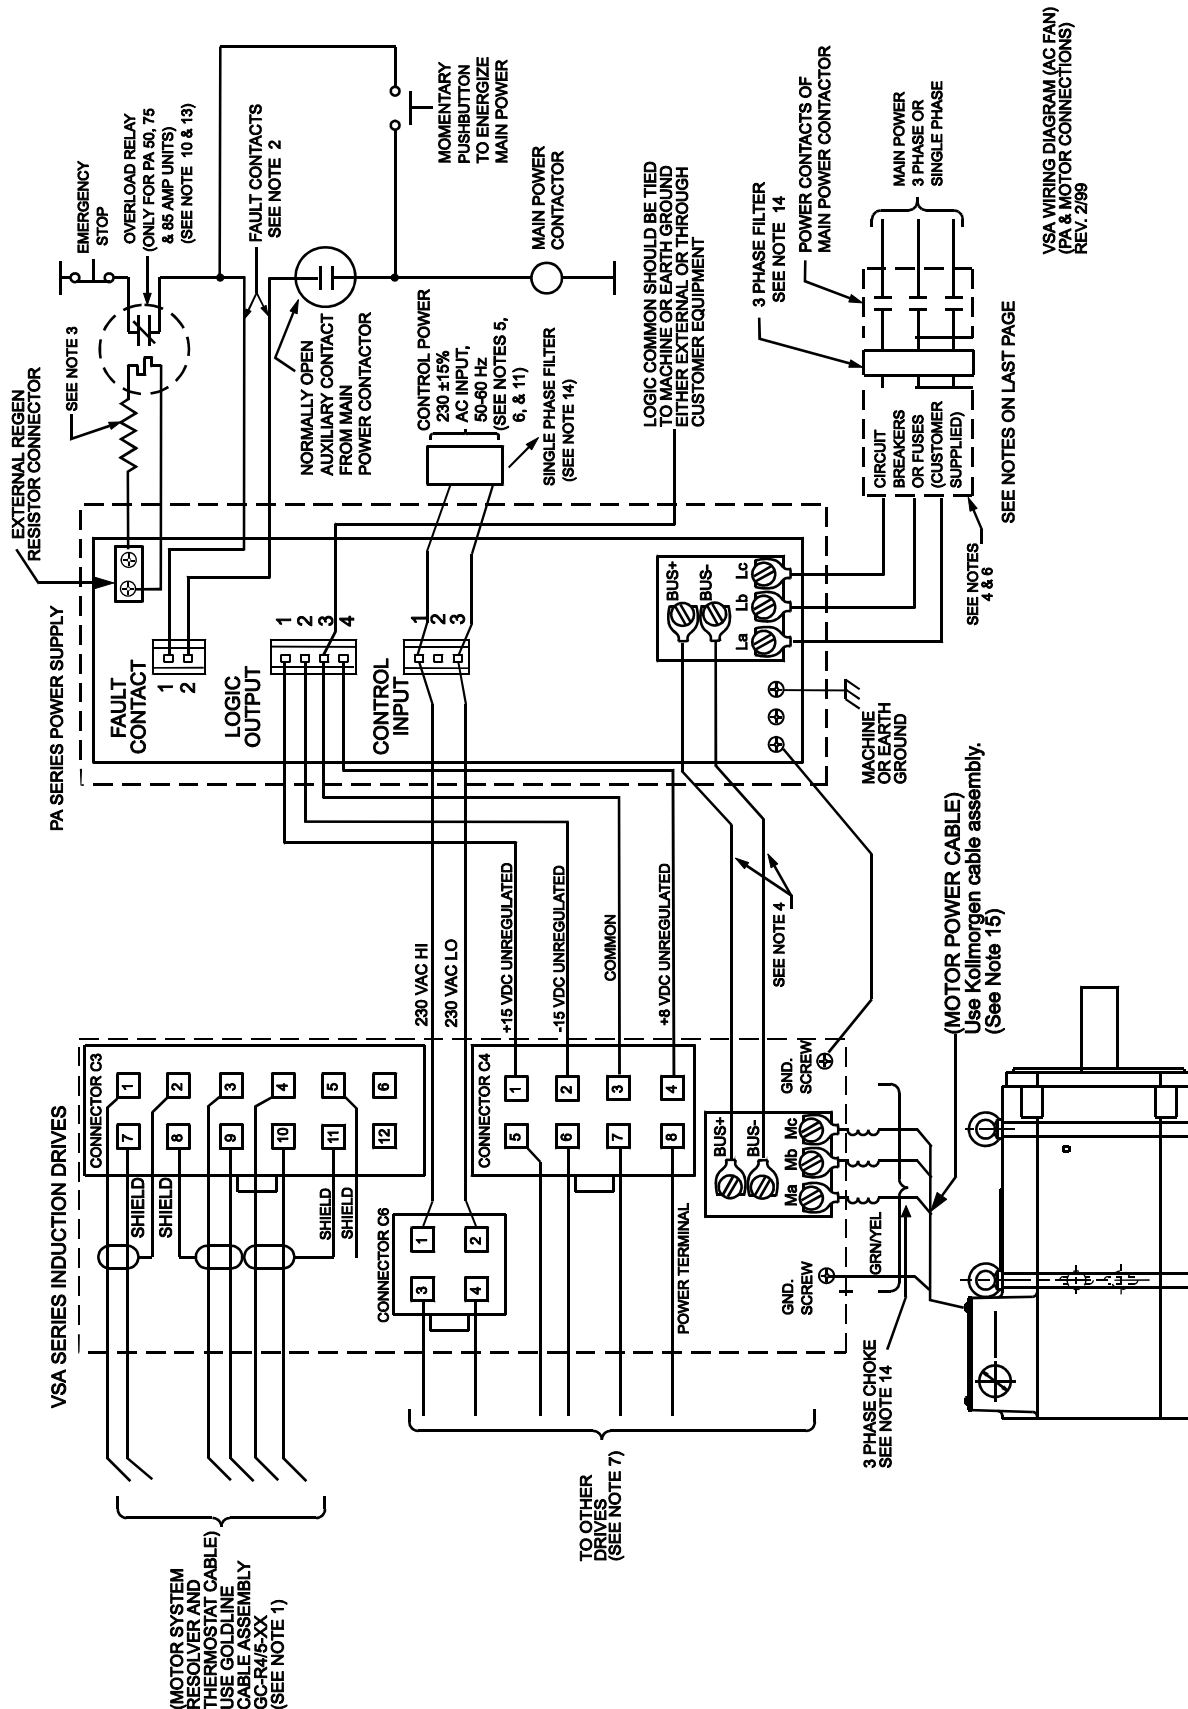

Figure B.1 PA and Motor Connections (AC Fan)
NOTES TO ACCOMPANY FIGURES B.1-B.7
2. **CAUTION:** The PA fault contacts (rated 115 VAC 1 AMP) must be wired in series with the overload relay as shown on Figure B.1. On the 50, 75, and 85 AMP PA, this contact closes on application of control power and after DC bus is active.
10. A thermal overload relay is supplied in the regen resistor kit for the 50, 75, and 85 AMP PA's. The thermal overload relay, included in the kit, was sized for your resistance and power rating. the output contacts of the relay must be wired to drop power to the main power contactor in a fault condition, as shown in Figure B.1.